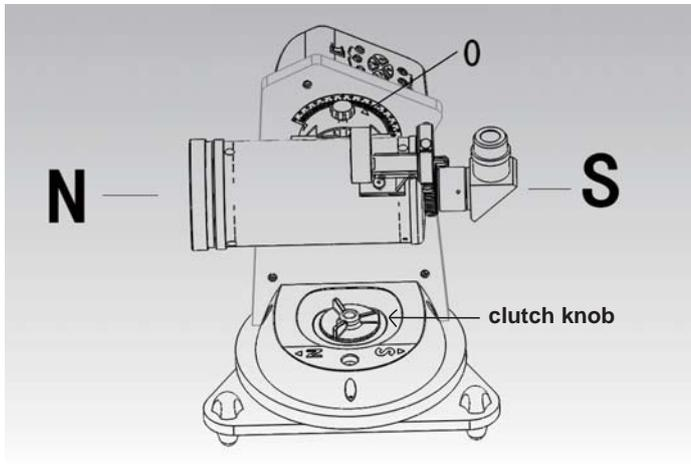

Figure 5
- For Northern Hemisphere users, rotate the altitude axis until the altitude scale reads 0 degree. For Southern Hemisphere users, let the dial read the local latitude. User can rotate the altitude axis with motor or manually (figure 5).